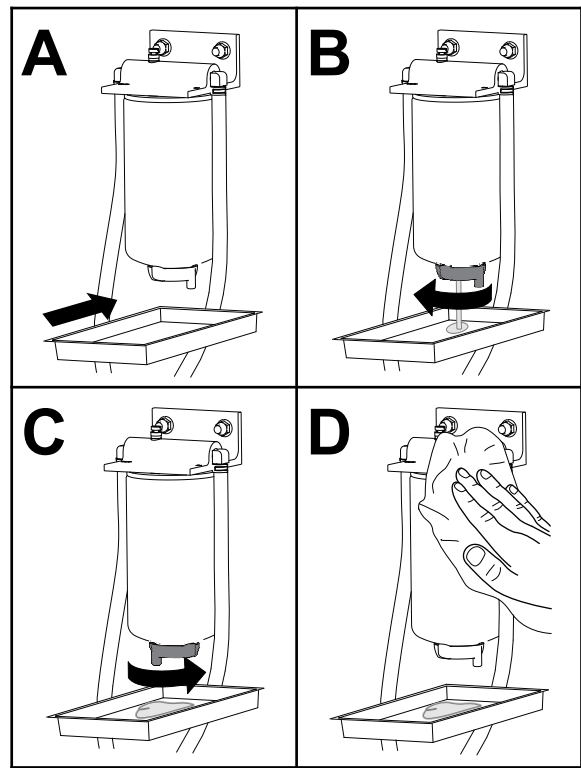

Figure 99
1. Drain water from the fuel/water separator as shown in Figure 99.